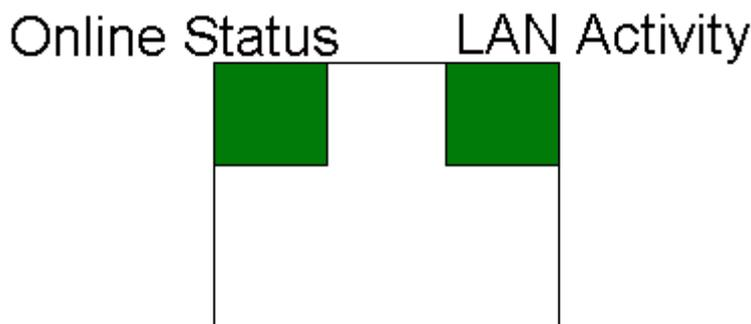

Figure 3-2: LAN Port LEDs
The LAN port comes with two (2) LEDs. As shown in *Figure 3-2*, one LED indicates the online status and the other indicates LAN activity. The LED definitions are shown in *Table 3-4*.